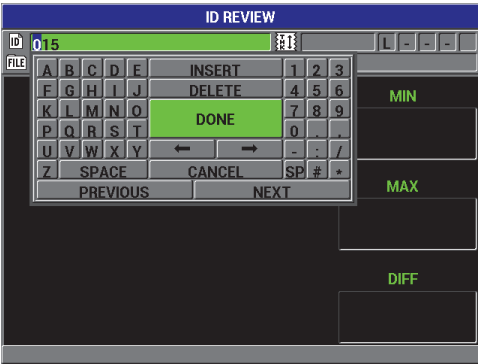

Figure 7-16 Editing the ID number
4. Press **[ID#]** again, and edit the ID value (see Figure 7-16 on page 132).